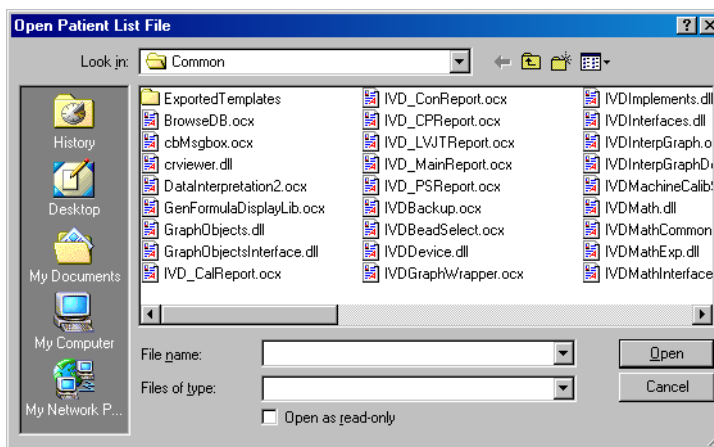

Figure 5-43 Open Patient List File Dialog Box
8. To add a patient file to the batch, click **Load Patient List**. An **Open Patient List File** dialog box opens. See Figure 5-43. If you do not want to add a patient list to the batch, skip to step 11.